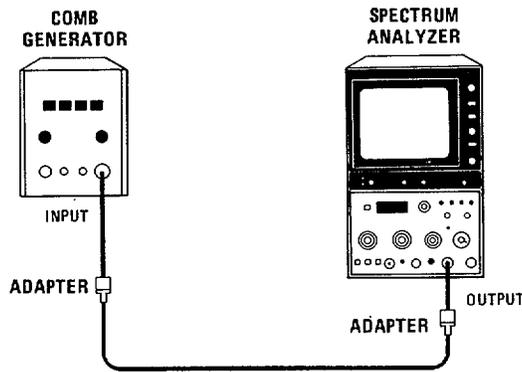

Figure 4-4. Tuning Accuracy Test Setup
- 3. Connect equipment as shown in Figure 4-4.